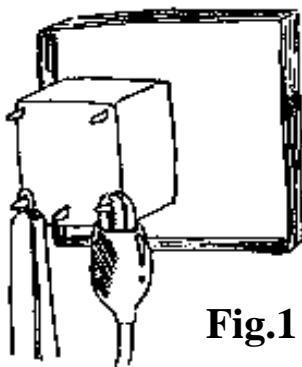
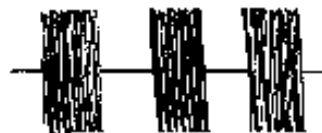

Fig.1
Fig.2
6. Connect antenna to reader for testing; First, connect an oscilloscope's probe to a circuit with bigger inductance (like the relay circuit) then approaching it to antenna (fig.1), now, you should be able to see a wave pattern shown on your oscilloscope like fig.2.